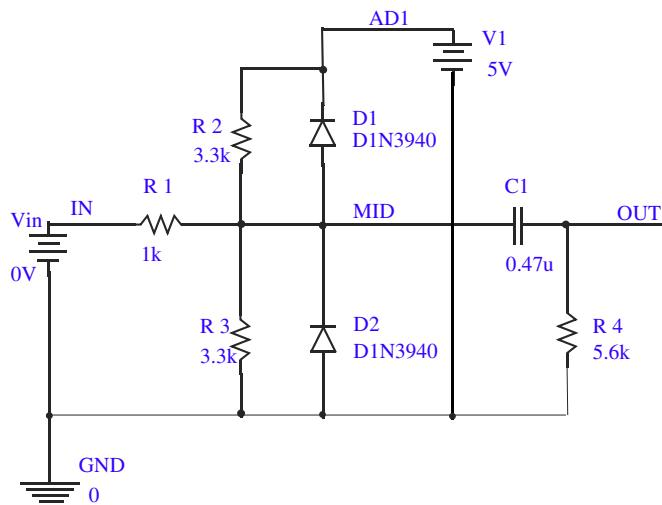

Figure 2-5 Diode clipper design
This section describes how to use Project Manager to create a design project and then use Design Entry HDL to create the simple diode clipper design shown in Figure 2-5.
5. Move the pointer to the correct position on the schematic page (see Figure 2-5 on page 83) and click to place the first part.
- You will change part names and values that do not match those shown in Figure 2-5 later in this section.
- resistors (R)
- capacitor (C)
5. Select 0 in the *Cells* list box and place the ground part (0) as shown in Figure 2-5 on page 83.
6. Continue connecting parts until the design is wired as shown in Figure 2-5 on page 83.